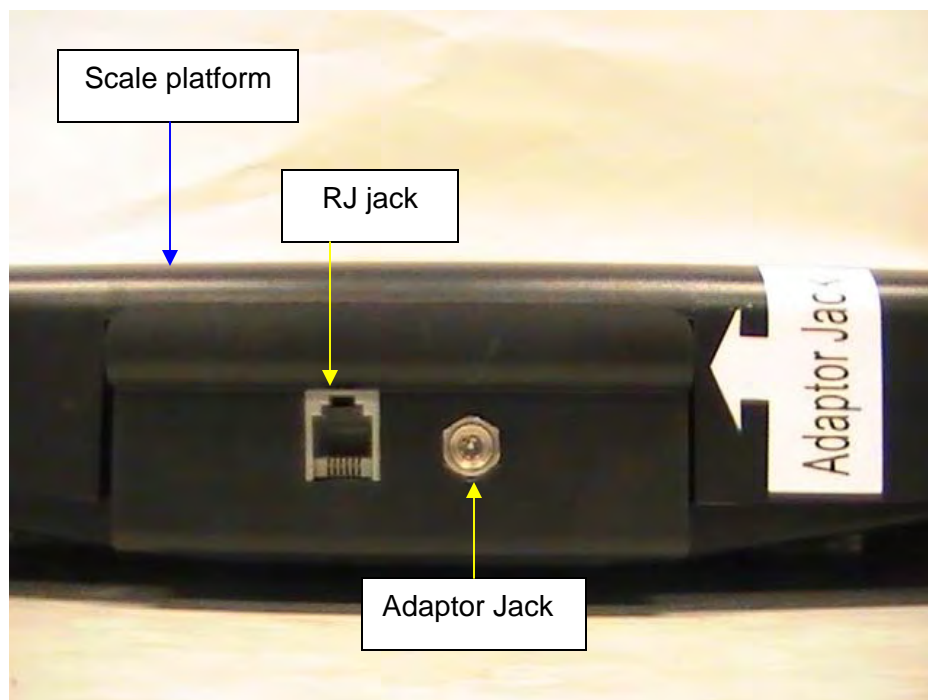

Figure 2
2. Ensure that the cable is securely connected to the scale platform RJ jack (see Figures 2 & 3).
2. Connect the optional AC adapter into the adaptor jack on the scale platform (see Figure 2).